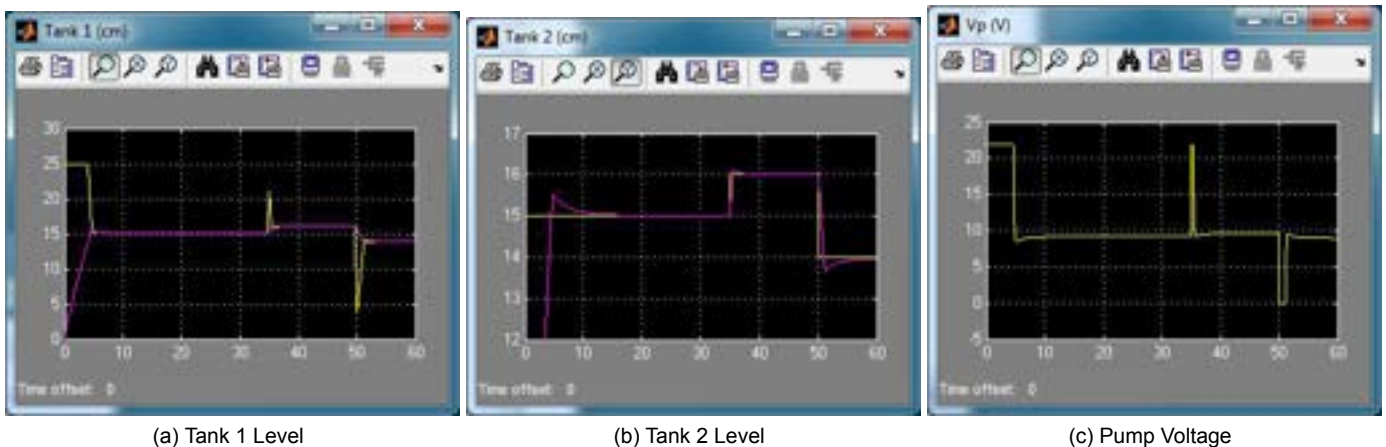

Figure 4.3: Simulated closed-loop tank 2 level control response.
- Open the *Tank 1 (cm)*, *Tank 2 (cm)*, and *Vp (V)* scopes.
- Start the simulation. By default, the simulation runs for 120 seconds. The scopes should be displaying responses similar to Figure 4.3. Note that in the *Tank 1 (cm)* and *Tanks 2 (cm)* scopes, the yellow trace is the setpoint (or command) while the purple trace is the simulation.